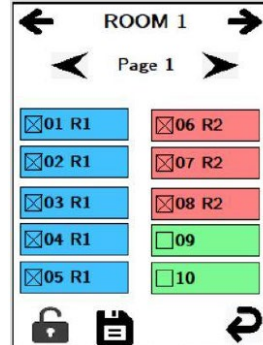

Figure 5: Room Configuration
- Check the boxes of the FFUs you would like to assign to that room, see Figure 5. Color coding is as follows - blue means FFU is assigned to that room; red means FFU is assigned to a different room; green means FFU is not assigned to a room. Use the lower arrows to continue assigning FFUs 1-60 to the current room. Use the top arrows to assign FFUs the next room.